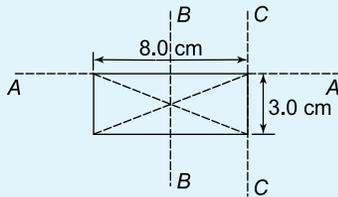

Figure 8.19
- Determine the second moment of area and radius of gyration for the rectangle shown in Figure 8.19 about (a) axis *AA* (b) axis *BB*, and (c) axis *CC*.